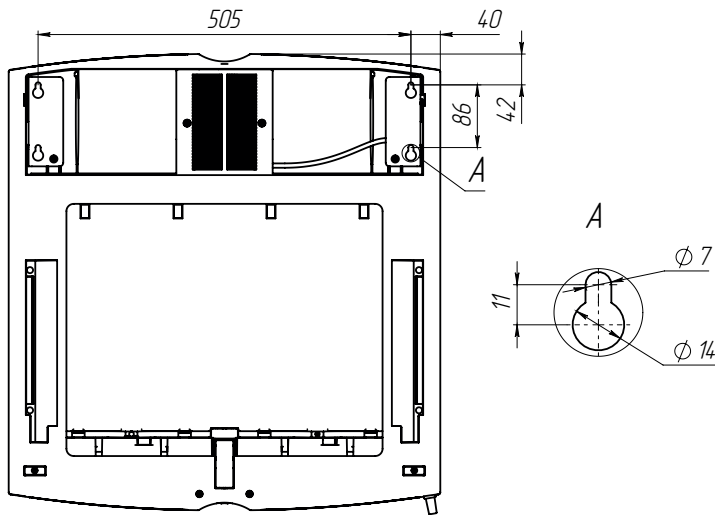

Figure 8. Layout of the device fixing holes
- Drill four holes at least 58 mm deep, insert screw anchors $\text{Ø}8 \times 50$, and fix sharp screws $\text{Ø}4,2 \times 57$ into them. The layout of the mounting holes is shown in Figure 8;